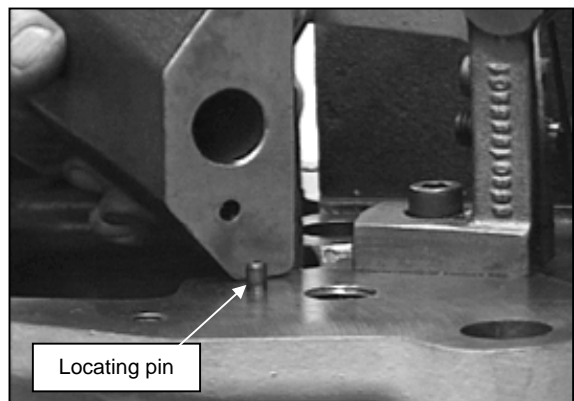

Fig.4 Do not loosen the locating pin.
2. When removing the rocker supports care should be taken not to lose the locating pins (**Fig.4**).